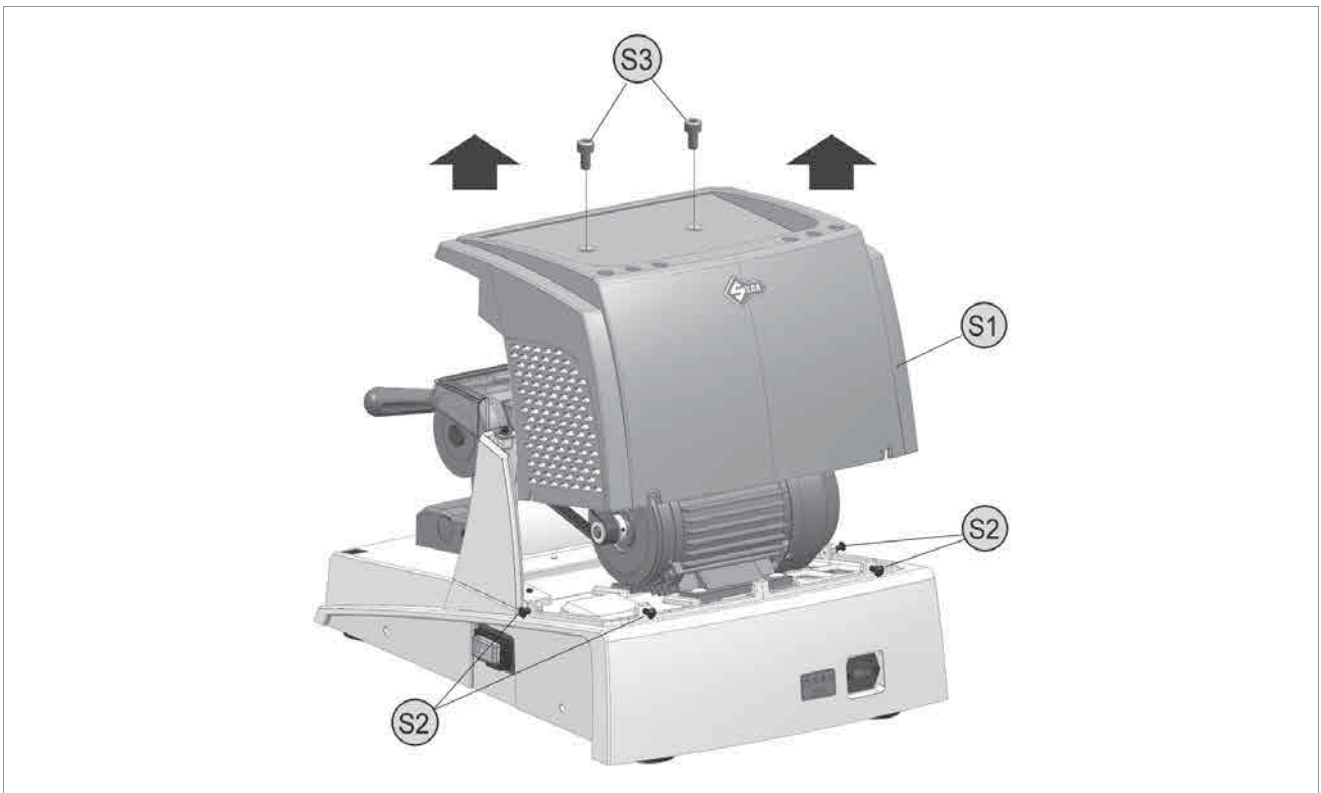

Fig.76
- 2) Loosen the 4 screws (S2), remove the 2 screws (S3) and remove the top cover (S1) (Fig.76).
- 15) Place the machine upright on the worktop and insert the swarf tray (V).
- 16) Secure the top cover with the screws (S2) and (S3) (Fig.76); replace the mat.
- 19) Place the machine upright on the worktop and insert the swarf tray (V).
- 20) Secure the top cover with the screws (S2) and (S3) (Fig.76); replace the mat.